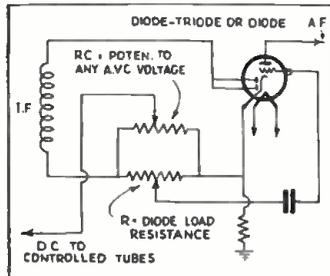

Fig. 3. A variable A.V.C. control.
**VARIABLE A.V.C. ACTION.** Here is a kink for varying the A.V.C. control voltage which is handy when hunting for DX stations, especially if the receiver does not have delayed A.V.C. This is also useful in cutting out noise when tuning. The potentiometer (Fig. 3) should have a high value (about 2 megs.) to prevent changing the diode load and cutting down the input to the first A.F. section.